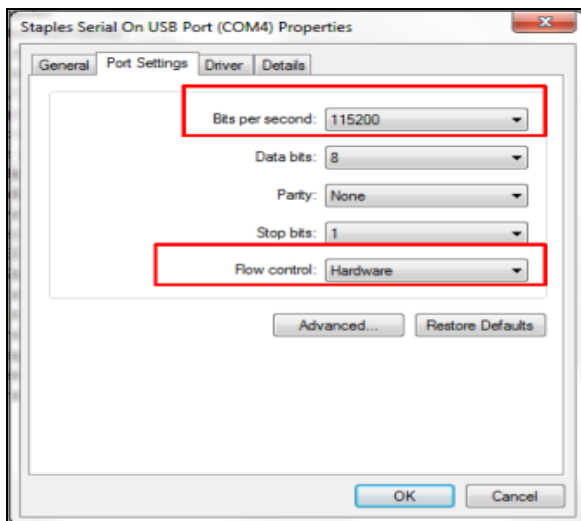

FIGURE 32: PROPER PORT SETTINGS
4. Double-click on the com port and validate the port settings. Settings should be as shown on Figure 32.